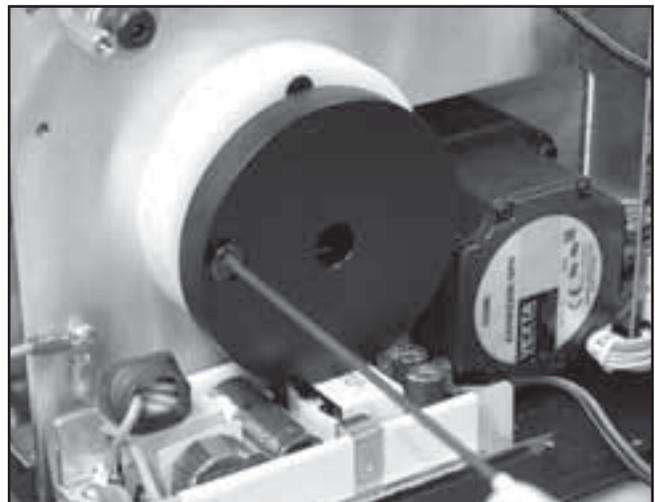

FIGURE 6.46
3. Position the Spring and Housing assembly in the mounting position on the Chassis. Start the Spring Mounting Screw using the 3/32 in Allen Wrench. Tighten Mounting Screw until Cord Tension Spring Mounting Loop is secure then, back the screw out one complete revolution. See Figure 6.46.